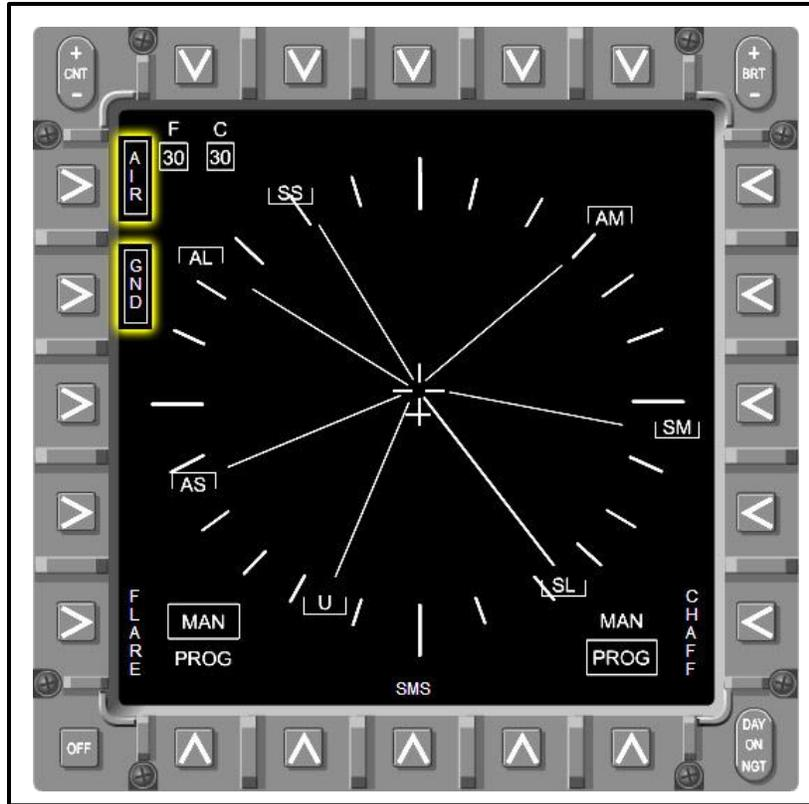

Figure 2-10 OFT EW Page
- b. EW Display – Displays threat type and direction of arrival (Figure 2-10). Provides for dispense of simulated countermeasures (chaff and flares). This display is accessed via the EW pushbutton on the SMS page and is, therefore, limited to the left MFC only. OFT EW symbols (Figure 2-11) are similar to VMTS.